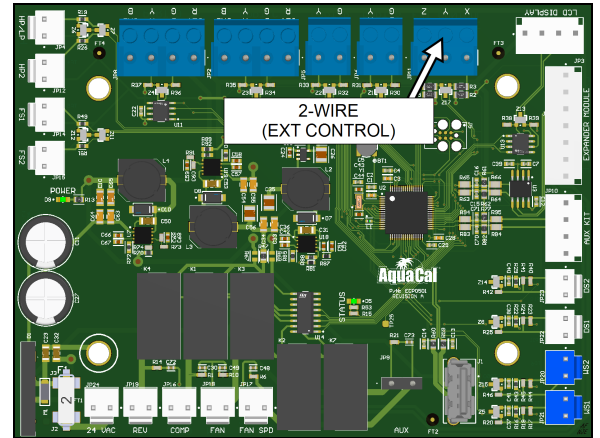

Figure 4
4. Connect the controller wires to the control board port labeled "Ext Controller" with the terminals labeled "Y" and "Z" as follows. See Figure 4.